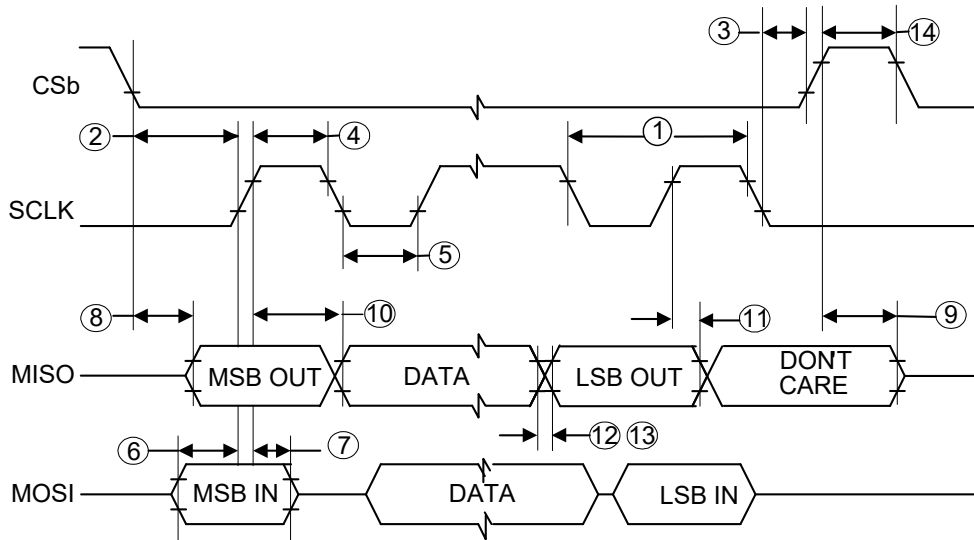

Figure 7. SPI timing diagram
| t_{SCK} | SCLK Period • Figure 7 - 1 | 160 | — | — | ns | |
| t_{LEAD} | Enable Lead Time • Figure 7 - 2 | 140 | — | — | ns | |
| t_{LAG} | Enable Lag Time • Figure 7 - 3 | 50 | — | — | ns | |
| t_{SCKHS} | SCLK High Time • Figure 7 - 4 | 56 | — | — | ns | |
| t_{SCKLS} | SCLK Low Time • Figure 7 - 5 | 56 | — | — | ns | |
| t_{SUS} | MOSI Input Setup Time • Figure 7 - 6 | 16 | — | — | ns | |
| t_{HS} | MOSI Input Hold Time • Figure 7 - 7 | 20 | — | — | ns | |
| t_A | MISO Access Time • Figure 7 - 8 | — | — | 116 | ns | |
| t_{DIS} | MISO Disable Time ⁽²⁵⁾ • Figure 7 - 9 | — | — | 100 | ns | |
| t_{VS} | MISO Output Valid Time • Figure 7 - 10 | — | — | 116 | ns | |
| t_{HO} | MISO Output Hold Time (No cap on MISO) • Figure 7 - 11 | 20 | — | — | ns | |
| t_{RO} | Rise Time • Figure 7 - 12 | — | — | 30 | ns | (25) |
| t_{FO} | Fall Time • Figure 7 - 13 | — | — | 30 | ns | (25) |
| t_{CSN} | CS_B Negated Time • Figure 7 - 14 | 500 | — | — | ns | |